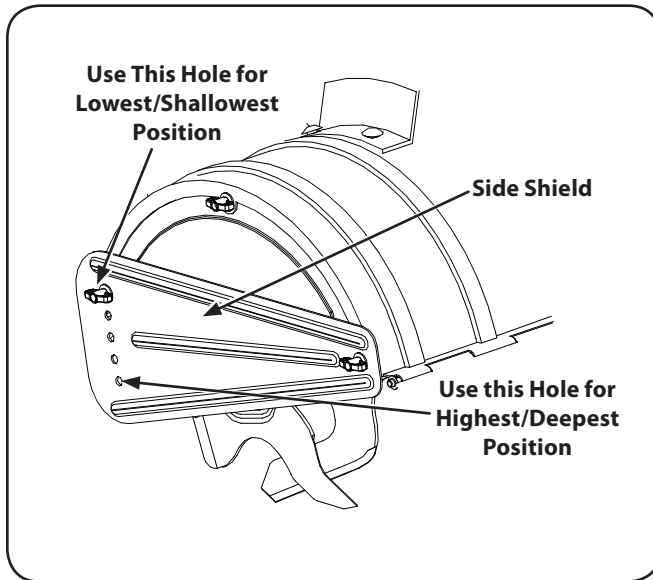

Figure 5-2
- When breaking up sod and for shallow cultivation, use the setting which gives 1" of tilling depth (second hole from the top). Place the side shields in their lowest position. See Fig. 5-2.